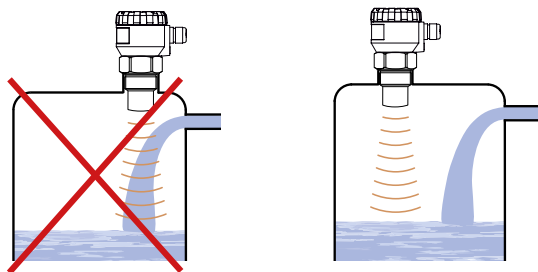

Fig. 7: Level meter installation outside the influence of filling
- Do not install the level meter in or above the **filling** point (Fig. 7).